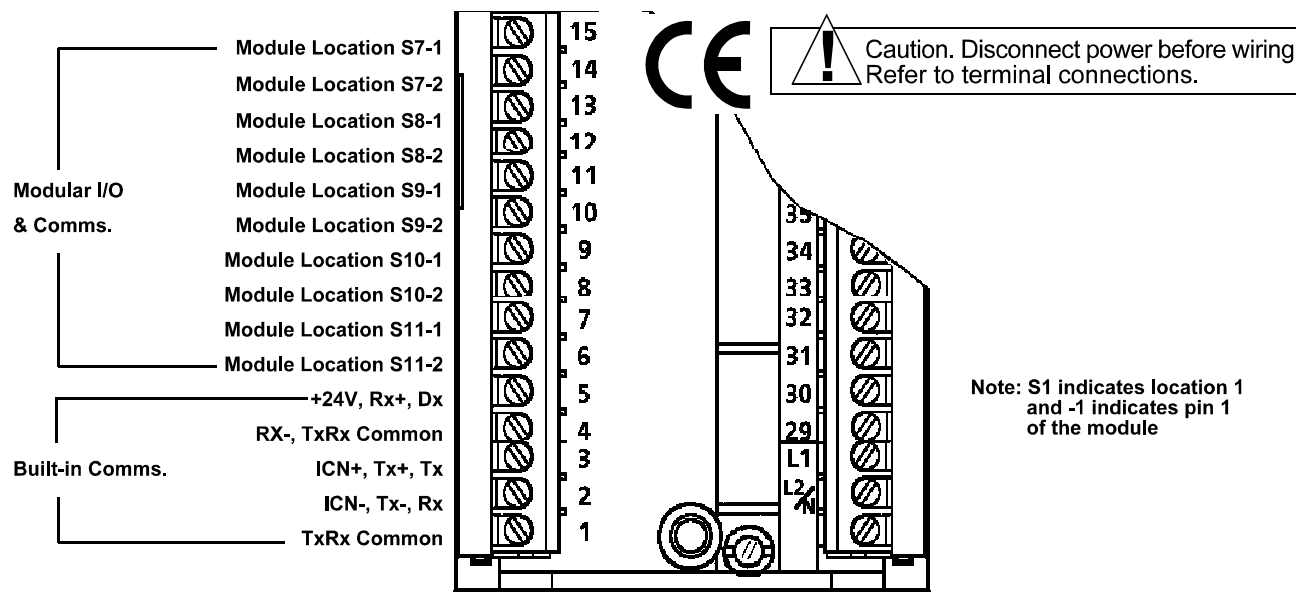
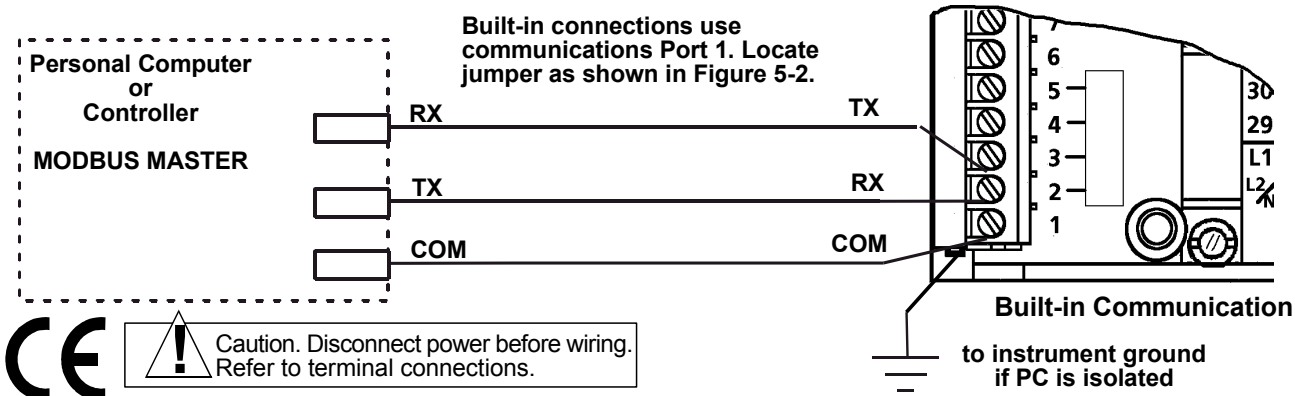
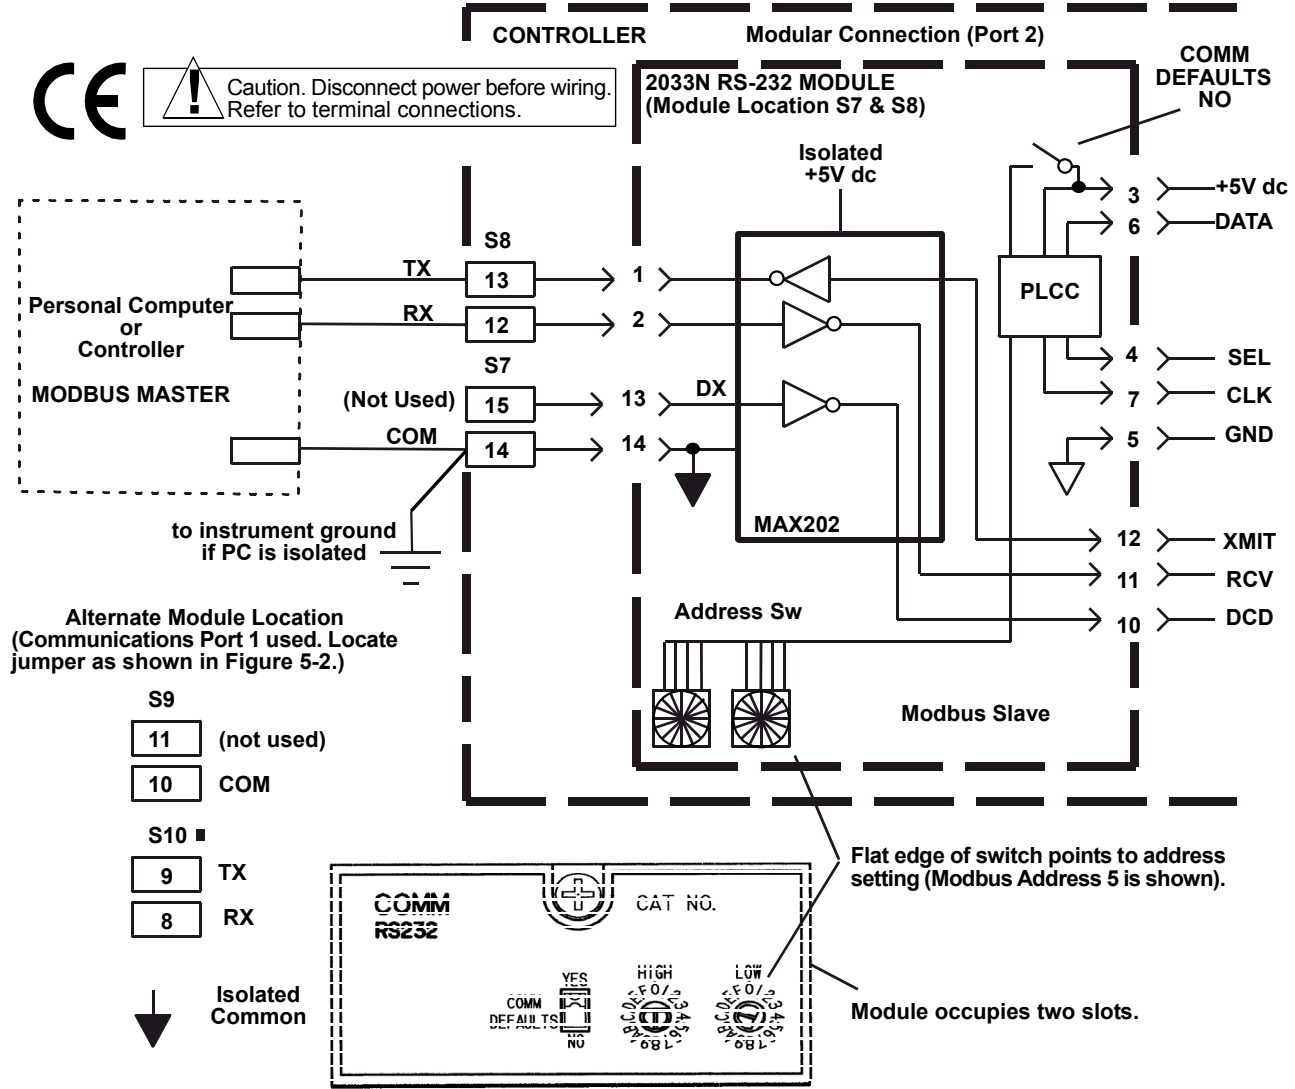

Figure 5-1. Terminal Identifications for Communications Network Connections
Figure 5-4. Typical Network Connections for Built-In Modbus RS-232 Communication
Figure 5-5. Typical Network Connections for Modular Modbus RS-232 Communication
The controller provides communications capability for both ICN and Modbus networks. Two serial communication ports are available permitting the controller to communicate on two different networks simultaneously. Port 1 can use either built-in or modular communication drivers. Port 2 requires a modular driver. Communications connections are made to the terminals shown in Figure 5-1. The communications network diagrams in this section show connections for both the built-in and modular communications circuits.
The wiring connections described in this section are made with the controller installed in its operating location and with the power off. All connection terminals are located under a cover on the back of the instrument housing. Figure 5-1 shows the communication connection terminals with the cover removed.
- If connections are made to the built-in communication terminals, Figure 5-1, the connections must support RS-232 communication as shown in Figure 5-4, otherwise the RS-232 port in the front panel is not functional.
Connections for a typical RS-232 Modbus network using the built-in circuit is shown in Figure 5-4, and connections using the modular circuit are shown in Figure 5-5. Either a computer or the controller can act as the Modbus master.